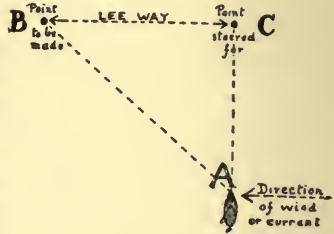

FIG. 3.
*Lee-way* is the difference (or distance) between the course *steered* by a vessel and that actually run, when the wind is on any part of her side. In fig. 3 A is the position of the ship. If the wind or current (or both) be coming from the direction marked and the point B is to be made, the helmsman will take into account the action of wind and current, and will steer his boat towards another point C, some distance above B. A C is, therefore, the course steered; A B the course actually run; and the distance between these, viz., B C, is the *lee way*. Lee way must always be calculated upon when sailing with a side wind, with a lee-tide, or with the tide under the lee. Naturally with a lee-tide there will be very much more lee-way made than if the tide be under the lee; and this will become very apparent to the beginner as soon as he takes the tiller in hand. Very much more lee-way will also be made by flat-bottomed vessels such as barges, than by those having deep keels or centreboards which present a wide surface to oppose a current. To counteract this tendency to lee-way, therefore, such flat-bottomed vessels are furnished with:—